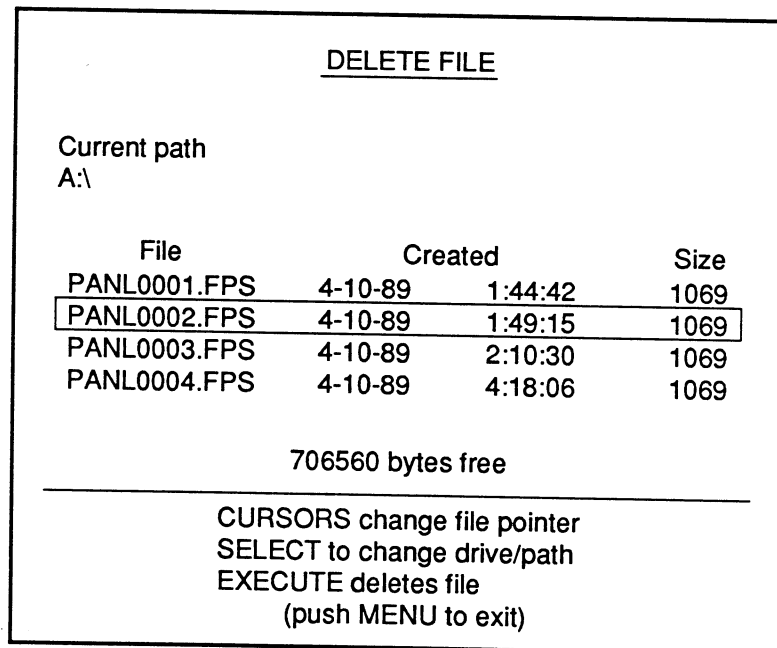

Figure 2 - Delete File Screen
1. Execute Directory. The Directory display appears (Figure 2).